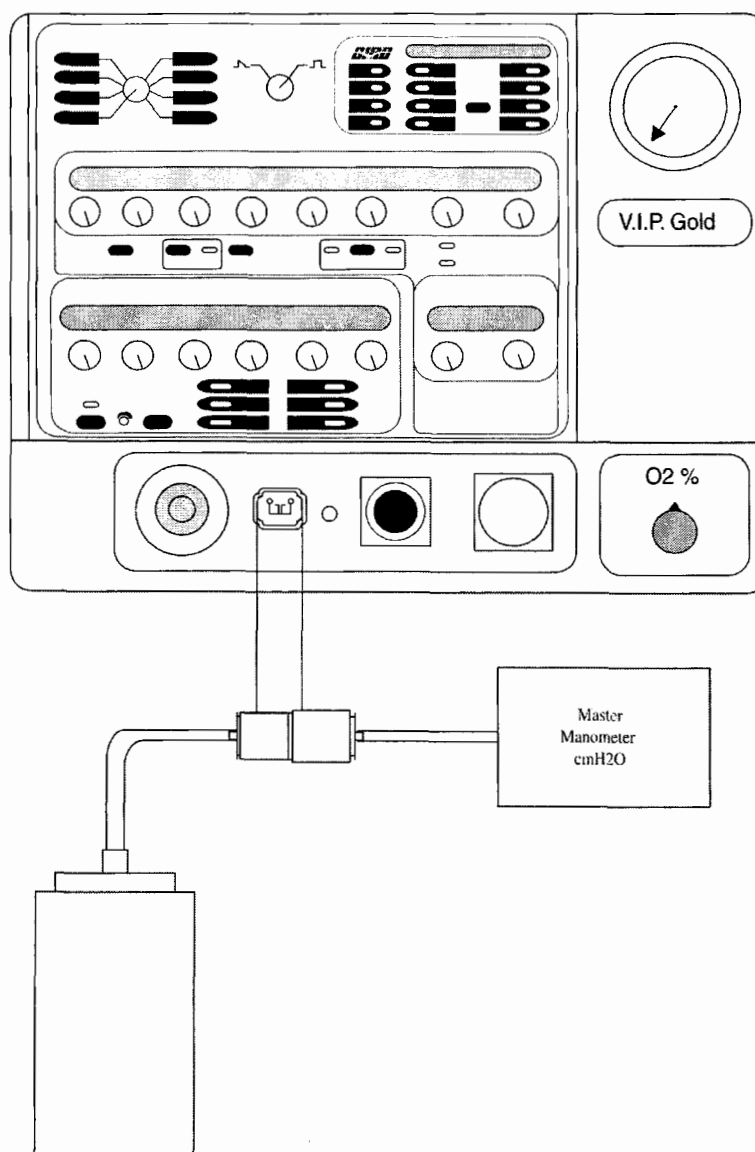

Figure 5.9
- 22.1 The monitor display will read **VM PURGE**. Connect the Transducer Test Harness and test lung (P/N 10107) to the V.I.P. as shown in figure 5.9.